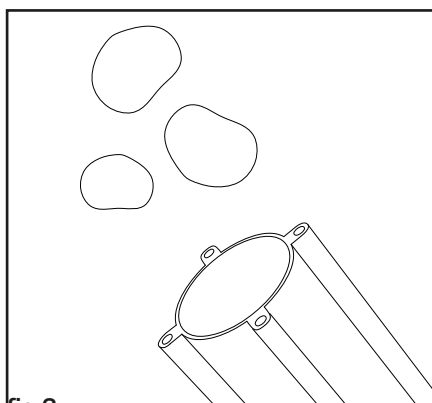

fig.3
7. Insert and compress the various portions of material into the tank (fig.3).
4. With your clenched fist (or with the help of e.g. a broomstick handle) push the nylon plunger outward. (fig.3).